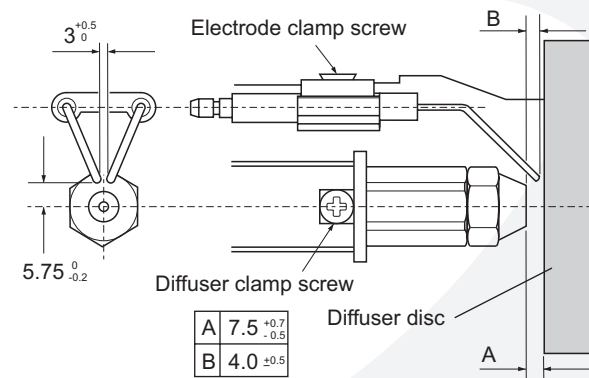

Figure 11-8: 46/58, 58/70 electrode settings
4. Check the electrode and diffuser settings: Figure 11-8.
5. To adjust the diffuser disc: Loosen the diffuser clamp screw and slide the disc along the nozzle holder to achieve the gap 'A' in Figure 11-8, tighten the screw.
6. To adjust the electrodes: Loosen the electrode clamp screw and move the electrode unit to achieve the gap 'B' in Figure 11-8, tighten the screw.